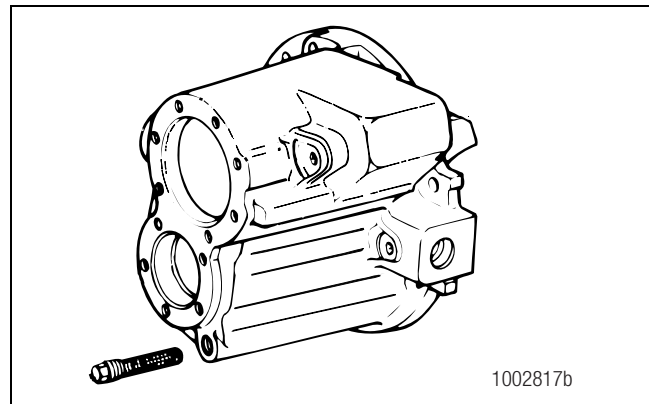

Figure 5.77
14. Install the oil screen and plug assembly into the suction line in front of the carrier. Tighten the screen and plug assembly to 48 lb-ft (65 N•m). Figure 5.77.